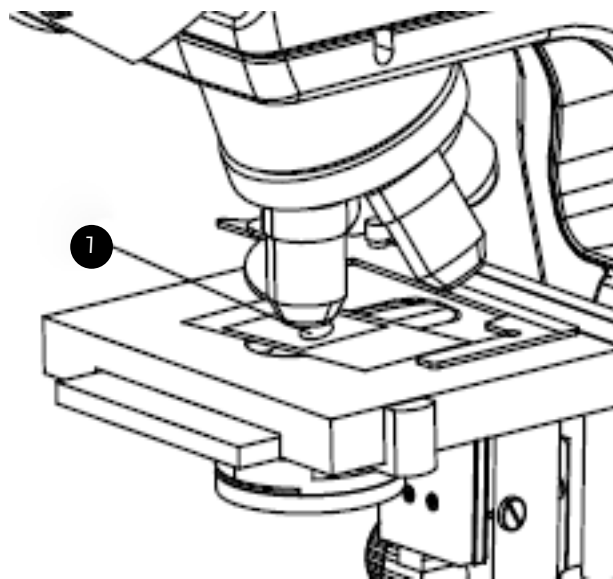

Fig. 15
2. Place a drop of oil **1** on the specimen observed (see Fig. 15).